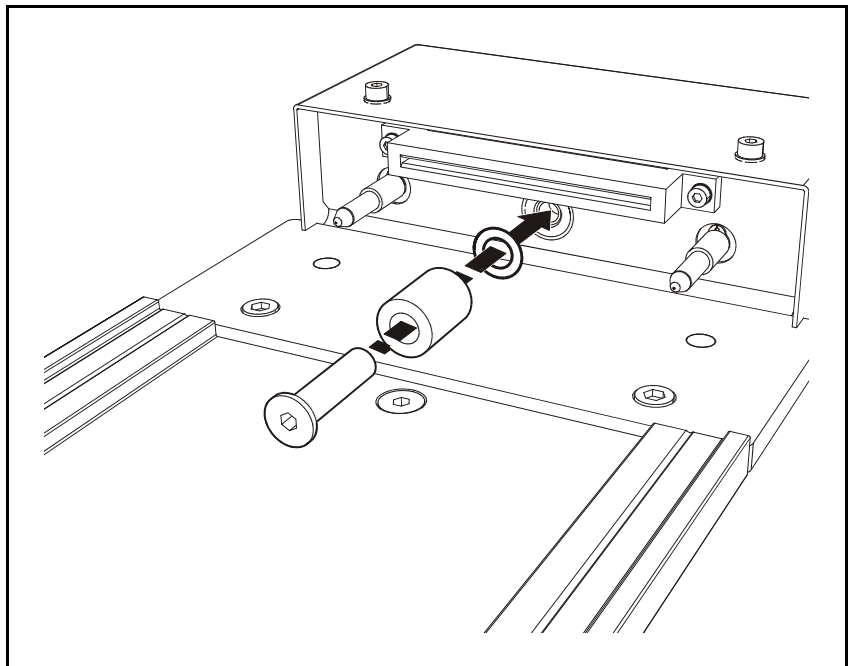

Figure 13-2. Add or remove shims for correct alignment.
6. Add or remove shims as necessary, see Figure 13-2. Shims are available in different thicknesses. Use the cross hair scaling to determine how much off-center the mark is in the Y direction.